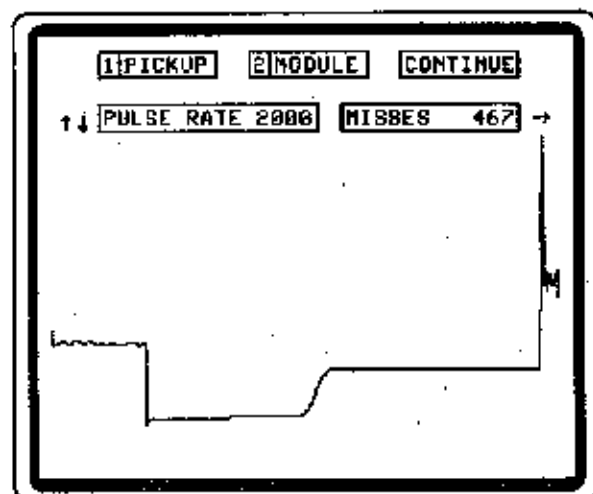

Figure 85
5. Observe the pattern on screen (see Figure 85). The speed that the module is being triggered is displayed as the pulse rate.